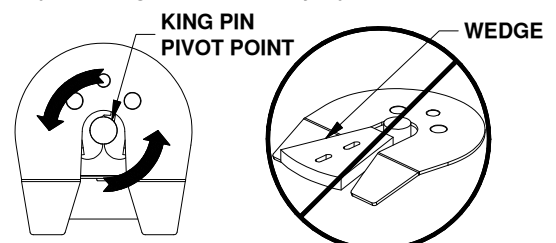

Figure G1: Top view of coupler head. Figure G2: Coupler Head with locking wedge. Reese® is a registered trademark of Cequent performance products.
- ⚠ WARNING:** Do not use the Slider 5th Wheel Hitch with any device that changes the location of the king pin pivot point. The king pin on your trailer must rotate in the jaws of the Slider Coupler, see Figure G1. Preventing the king pin from rotating within the jaws of the Slider Coupler with a wedge, see Figure G2, or any other device, such as a Reese Sidewinder® or Reese Revolution®, could result in property damage, serious injury or death.